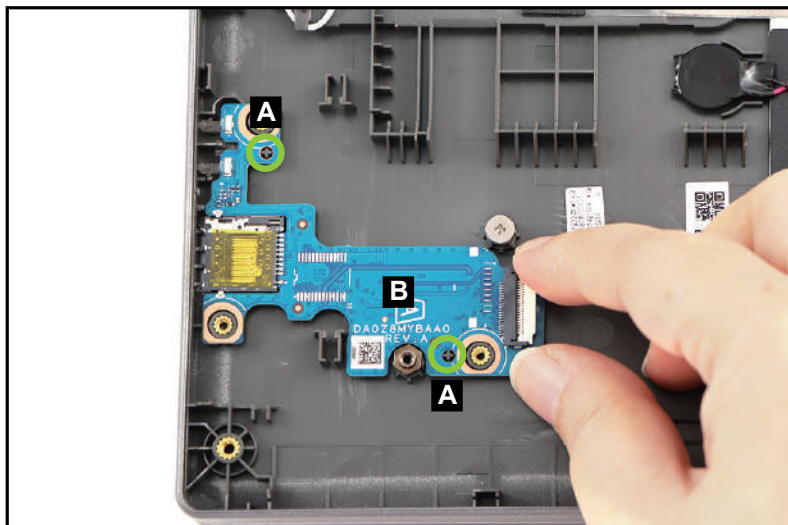

Figure 3-119. Replacing the Card Reader Board
1. By aligning with the guide pins (A) and the card reader slot, install the card reader board (B) onto its slot on the top assembly (Figure 3-119).